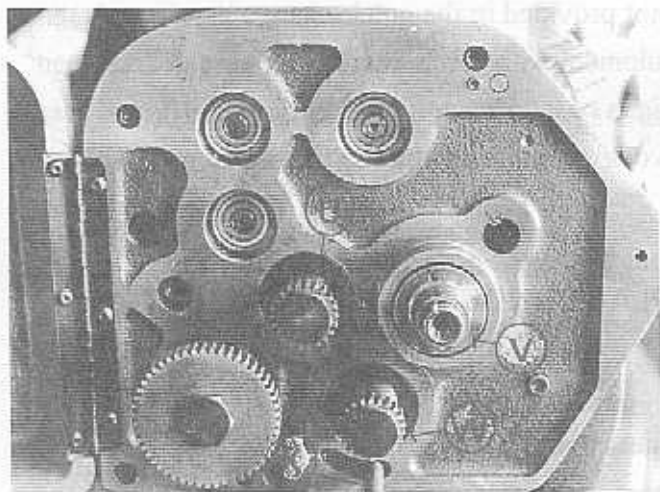
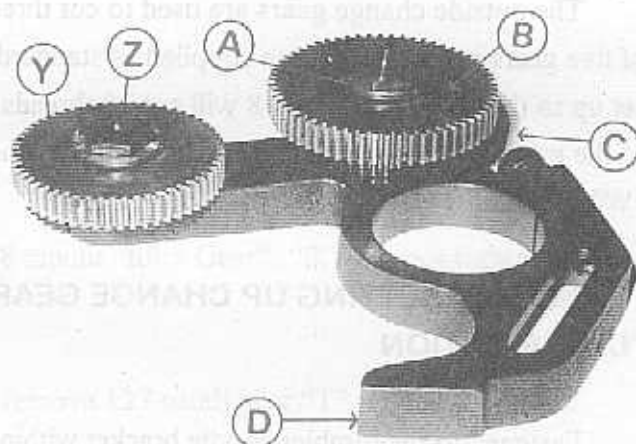
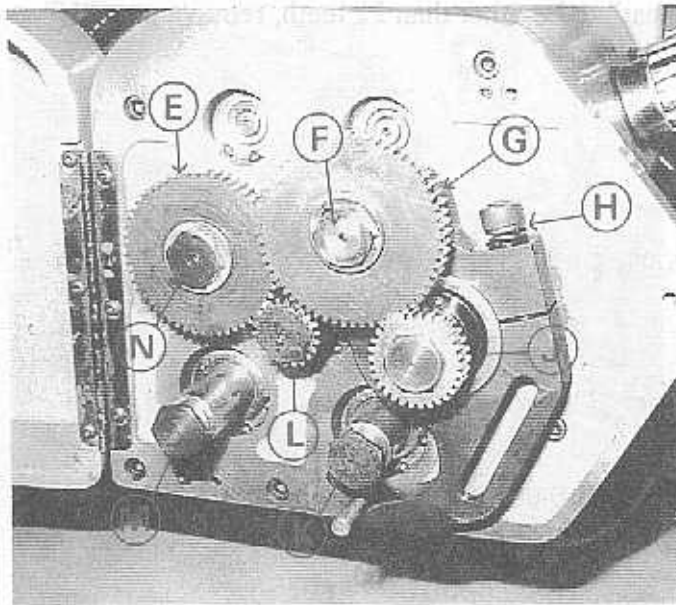

Figure 5 - Threading Gearbox
Figure 6 - Change gear Bracket
Figure 7 - Mounting Change Gear Bracket
The outside change gears are used to cut threads not provided in the quick-change gearbox. A set of five gears and a bracket are supplied as standard equipment with each machine. These gears, when set up to the gear chart, Page 8 will cut 10 threads per inch or 0.25 mm pitch according to set up. Three of the gears are shipped on the bracket and the other two are in place on the shafts as shown at "U" and "W", Figure 5.
Fastened to the tumbler handle bracket within the gear box is a round safety bar "X", Figure 5, that extends out through a slot in the gearbox plate. This bar is to prevent applying change gears outside the gearbox until the tumbler handle is placed in the "OUT" position.
2. On English side of change gear bracket "D", Figure 6, mount "First Gear on stud" "C" with spacer between gears. Do not tighten bolt "A" fully.
5. If thread chart specifies number of teeth in "First Gear" to be other than 22 teeth, remove gear "U" Figure 5, and replace with specified gear.
7. Mount Change gear bracket assembly, Figure 6, on pivot post "V", Figure 5. Do not tighten bracket bolt "H", Figure 7, fully.
8. Make certain key is in place and mount "Screw Gear" "J", Figure 7. Replace bolts "K" and "M".
9. Adjust "Second Gear on Stud" "G", Figure 7, with 0.003-0.004 backlash between it and "Screw Gear" "J". Use plastic shim stock to help determine backlash. Tighten bolt "F".
(b) When disassembling setup, remount 22 tooth gears "U" and "W", Figure 5.
5. Remove "First Gear" "U", Figure 5, and replace bolt. Do not misplace key.
- (b) When disassembling setup, remount 22 tooth "Tumbler Gear" "W", Figure 5, and 22 tooth "First Gear" "U".